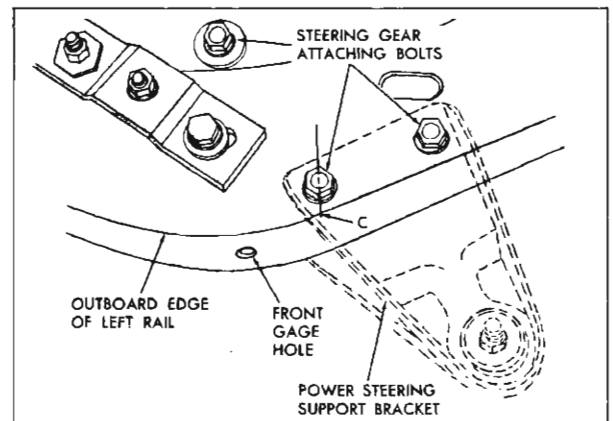

Fig. 11-3 Vertical Reference Point ("C")
c. Outboard lower edge of motor compartment left side rail directly below front lower attaching bolt hole for the steering gear assembly Fig. 11-3.